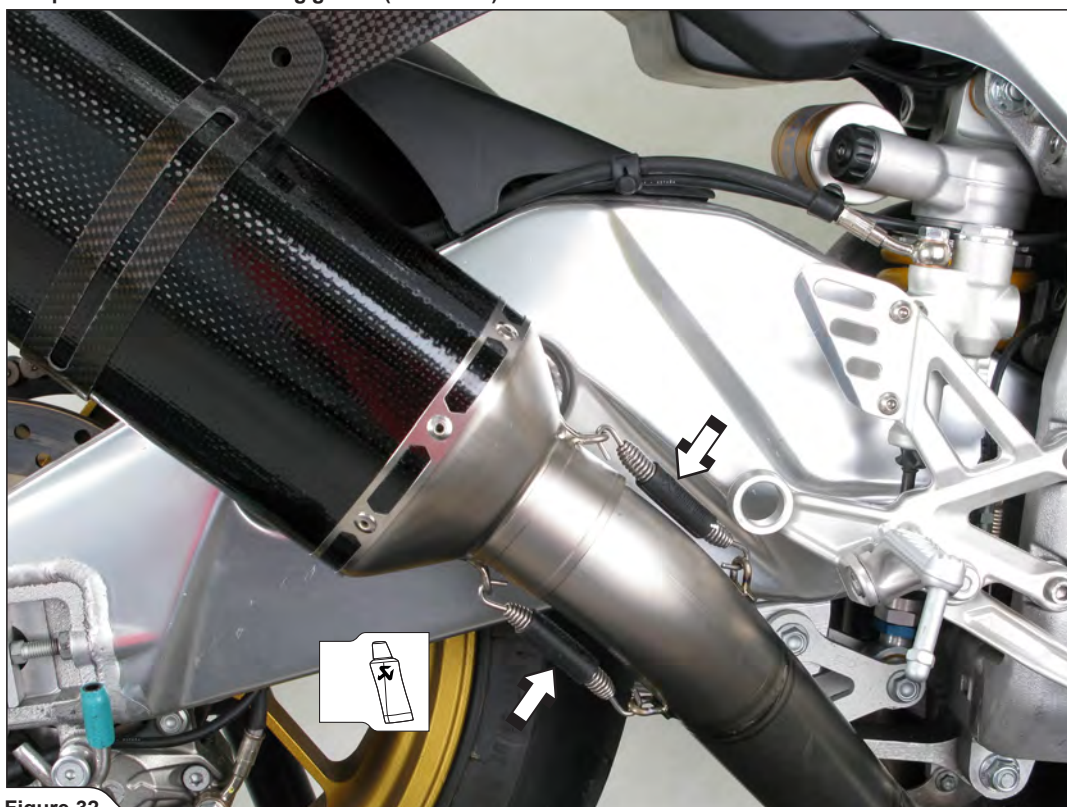

Figure 32
11. Position the muffler correctly and slide it onto the outlet side of the link pipe. Attach the springs (**Figure 32**).